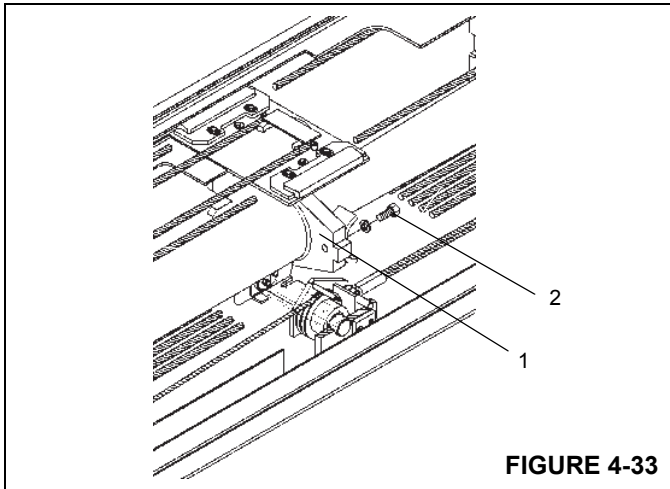

FIGURE 4-33
3. Align the cylinder inner rod (1) mounting holes with the tabs and holes in the rear of the inner mid and secure with two capscrews and washers (2) (Figure 4-33).